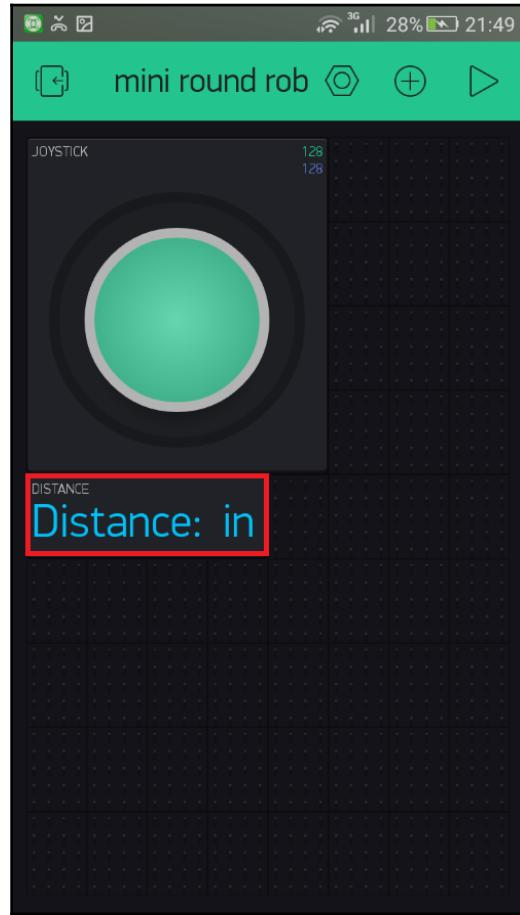

Figure 3.10: The configured Labeled Value widget for Distance
7. Tap the back icon on the toolbar to see the changes applied to the **Labeled Value** widget on the canvas (*Figure 3.10*):